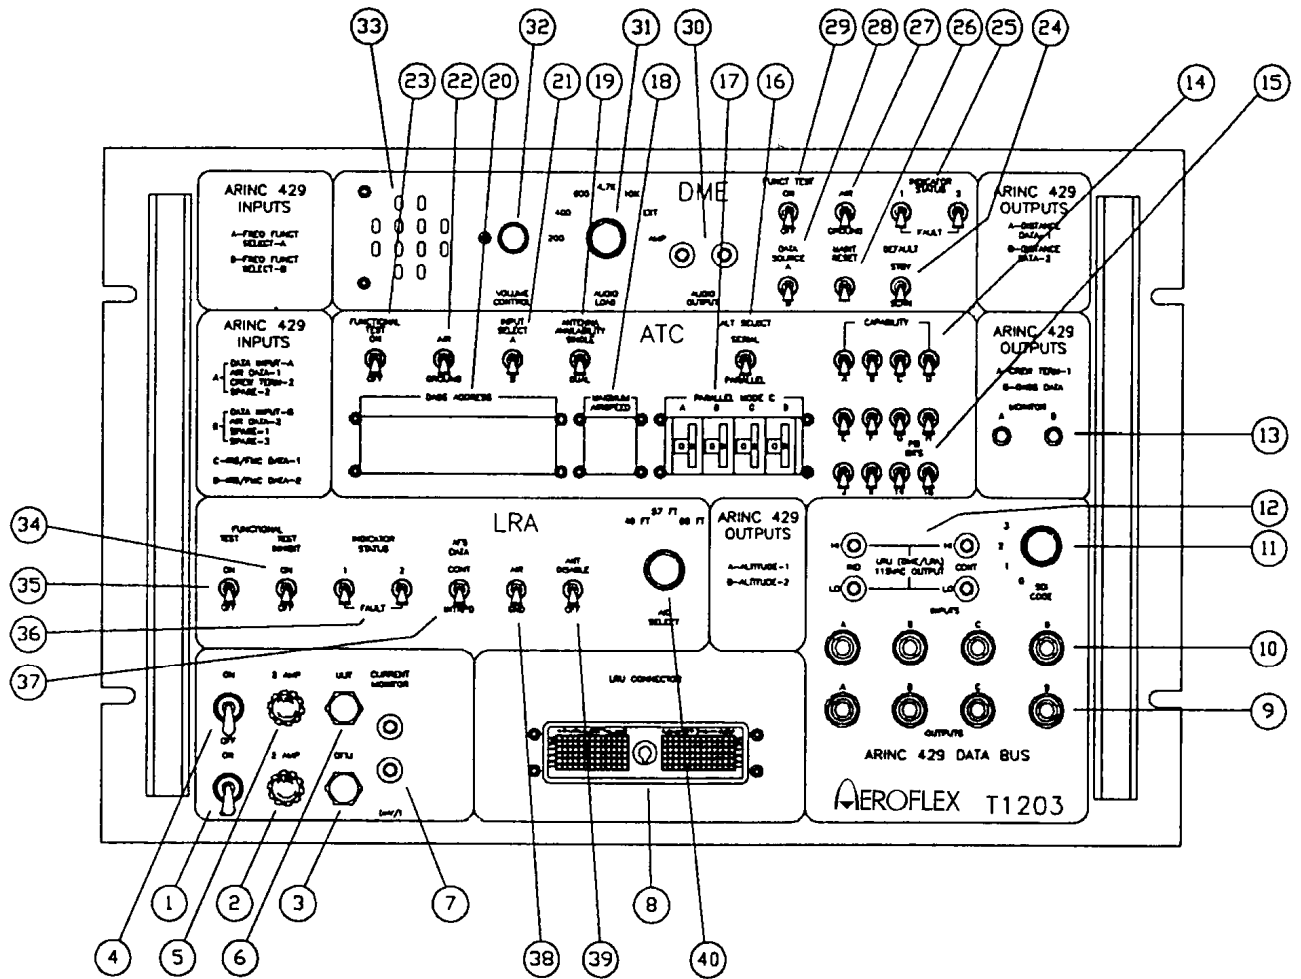

Fig. 3-1: T1203 Controls - Front Panel
3.2.1 CONTROLS - FRONT PANEL (Fig. 3-1)